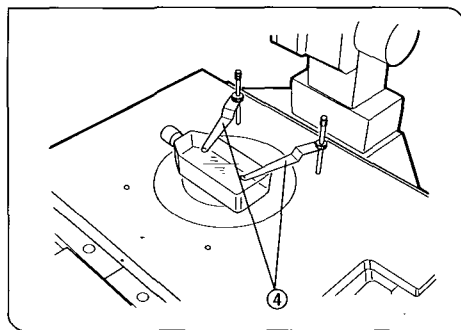

Fig. 13
- 4. Screw the stage clips (U-SCL) ④ into the threaded holes provided on the stage surface. (Fig. 13)